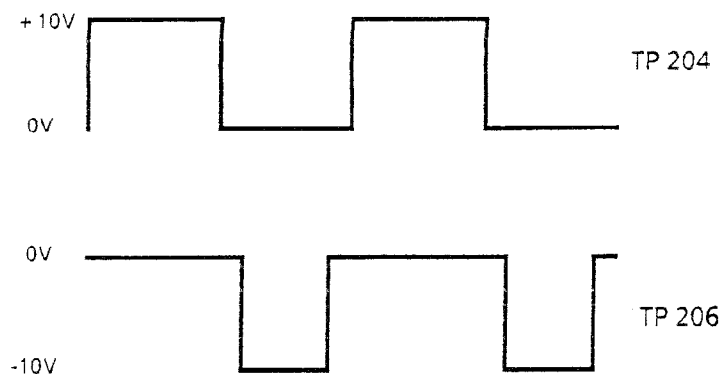

Fig 2.5 *Waveform on Test Points TP204 and TP206*
5. The waveform should be as shown in Fig 2.5.